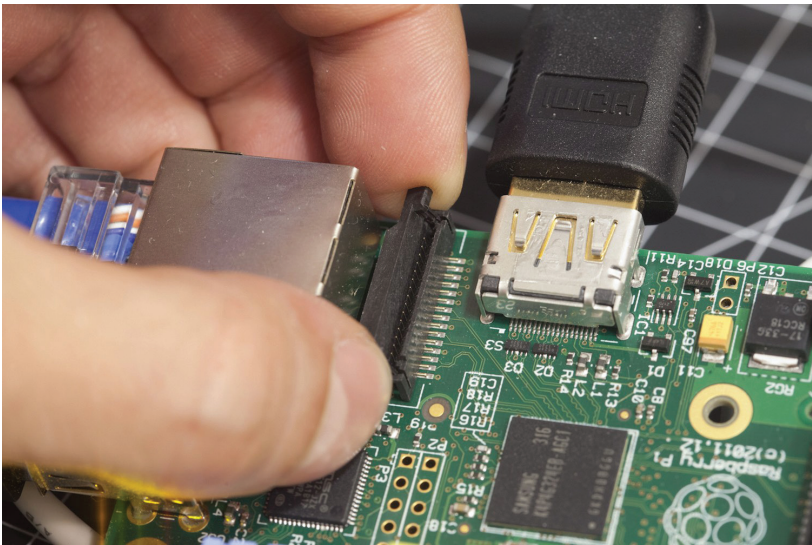

Figure 9-4. *Opening the camera serial interface connector locking mechanism*
1. Pull up on the edges of the CSI connector, which is right next to the Ethernet port. A piece of the connector will slide up and lean back toward the Ethernet port. (See Figure 9-4.)